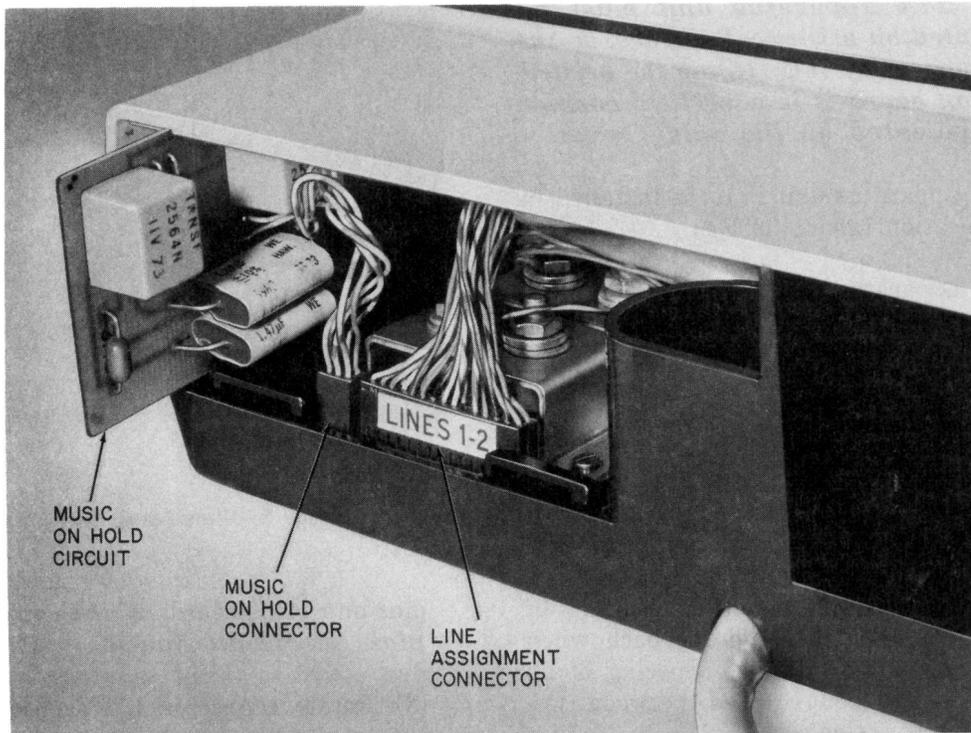

Fig. 6—Line Assignment Connector and Music-on-Hold Board
(2) Remove line assignment connector (Fig. 6) by pulling straight up until connector clears
- (2) Insert music-on-hold circuit board vertically in slots provided in upper and lower housings (Fig. 6).
- (3) Plug in connector from circuit board to the pins provided as shown in Fig. 6. The connector may be plugged in either way.
- (4) Replace transformer and heat sink assembly.
- (5) Plug in power cord.